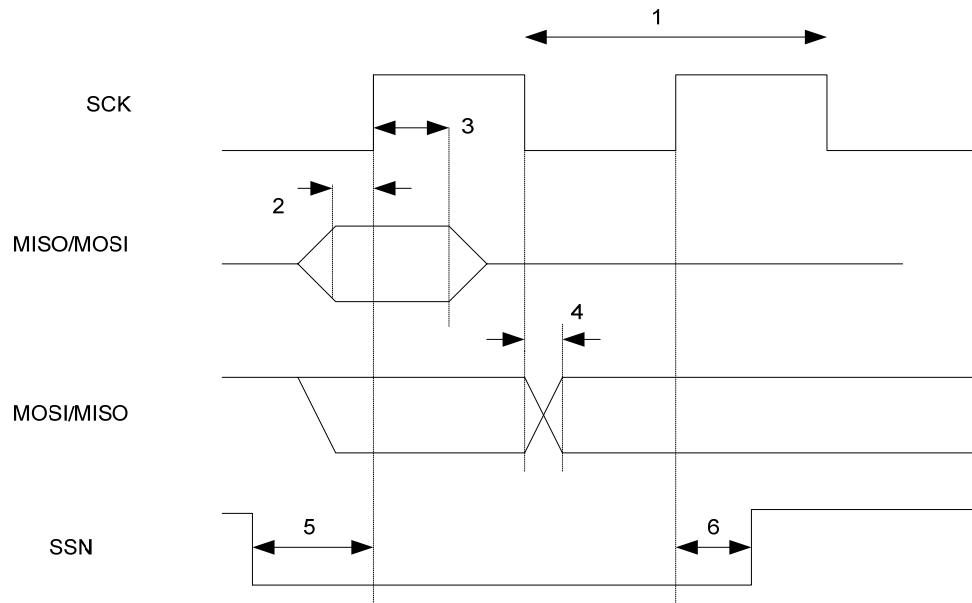

Figure 6: Debug Interface AC Characteristics
| Debug clock period | 125 | | | ns | See item 1, Figure 6 Note: CLKCON.CLKSPD must be 000 or 001 when using the debug interface |
| Debug data setup | 5 | | | ns | See item 2, Figure 6 |
| Debug data hold | 5 | | | ns | See item 3, Figure 6 |
| Clock to data delay | | | 10 | ns | See item 4, Figure 6, load = 10 pF |
| RESET_N inactive after P2_2 rising | 10 | | | ns | See item , Figure 6 |